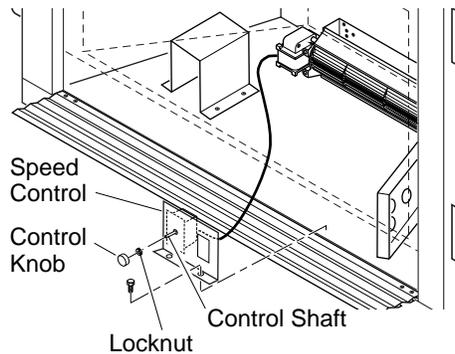

Figure 31 - Attaching Speed Control to Firebox
5. Place speed control against back of this plate and push the plastic control shaft through opening (see Figure 31, page 17).
6. While supporting speed control, secure control shaft with lock nut by pushing and turning lock nut with pliers clockwise until tight against the plate. Place control knob provided onto shaft (see Figure 31, page 17).